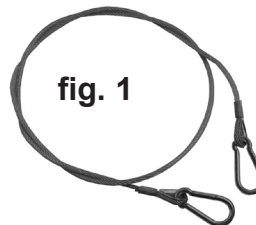
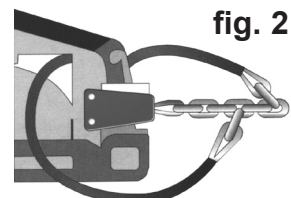

fig. 1
fig. 2
- WARNING!** This product should not be used without a safety cable. In the event of the puller/clamp becoming detached from the vehicle bodywork when under tension a safety cable will minimise the risk of serious injury. Pull Clamp Safety Cable (fig.1), Model Number RE92/SC, is available from your Sealey dealer. After attaching the puller/clamp to the bodywork, but before applying any tension, one end of the safety cable should be clipped to the puller/clamp chain and the other end passed through the bodywork and then also clipped to the chain, as shown in fig. 2.